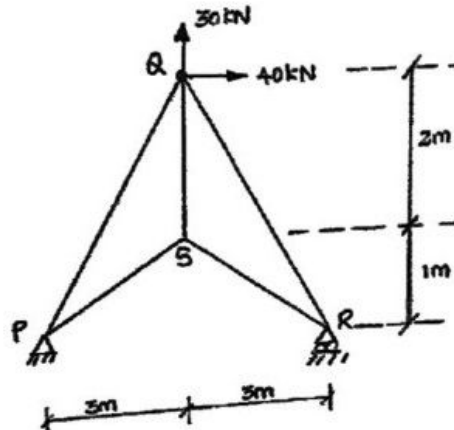

Fig. Q15 (a)
15. (a) Find the forces in all the members of pin jointed frame PQRS shown in Fig Q15 (a), using stiffness method. Assume Area = 1800 mm^2 and Young's modulus = 200 GPa for all the members.